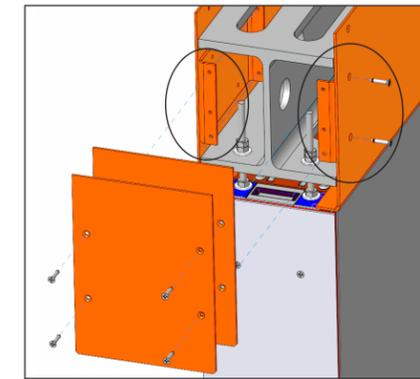

**Figure 12:** Attach Multi-Bracket to Beam Shroud
- Attach a multi-bracket to the beam shroud between spliced shrouds before mounting the next beam shroud on each face as shown in **Figure 12**.
- Attach a multi-bracket between spliced shrouds above the beam at the location shown in **Figure 12**. If structural cables or the rotator interfere, skip the location.